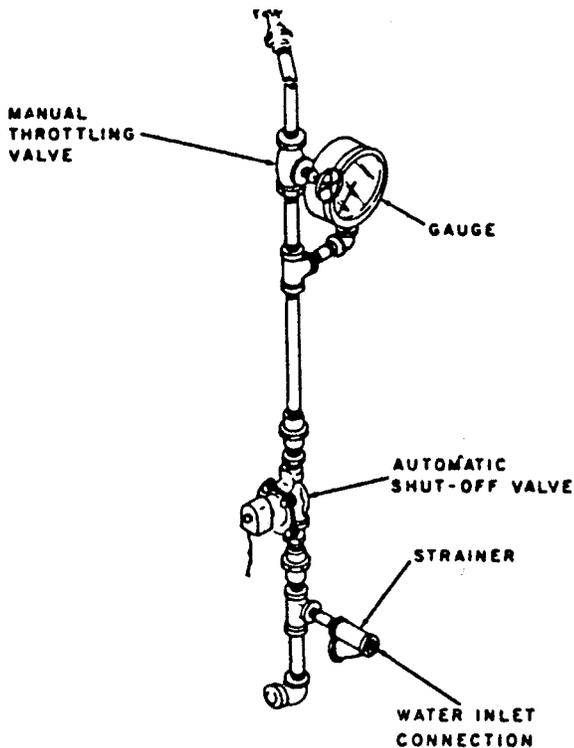

Figure 3: Water Inlet Piping
- G. Install the water inlet piping as shown in Figure 3. Note that unions are provided to facilitate assembly.